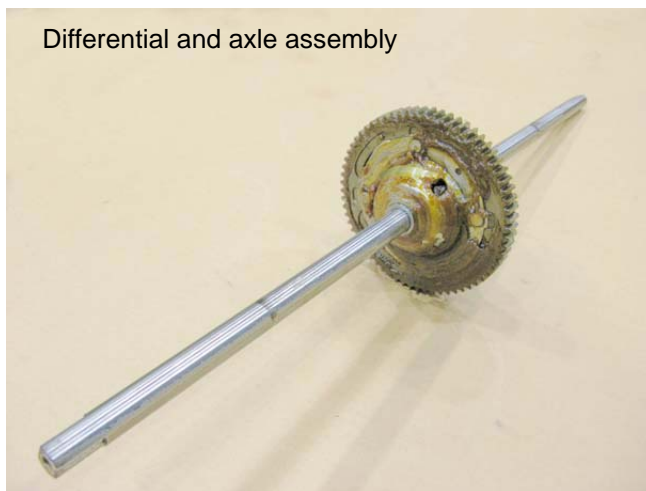

Figure 5.67
11. Slip the seals, bearings, and washers off of the differential and axle assembly. See Figure 5.67.